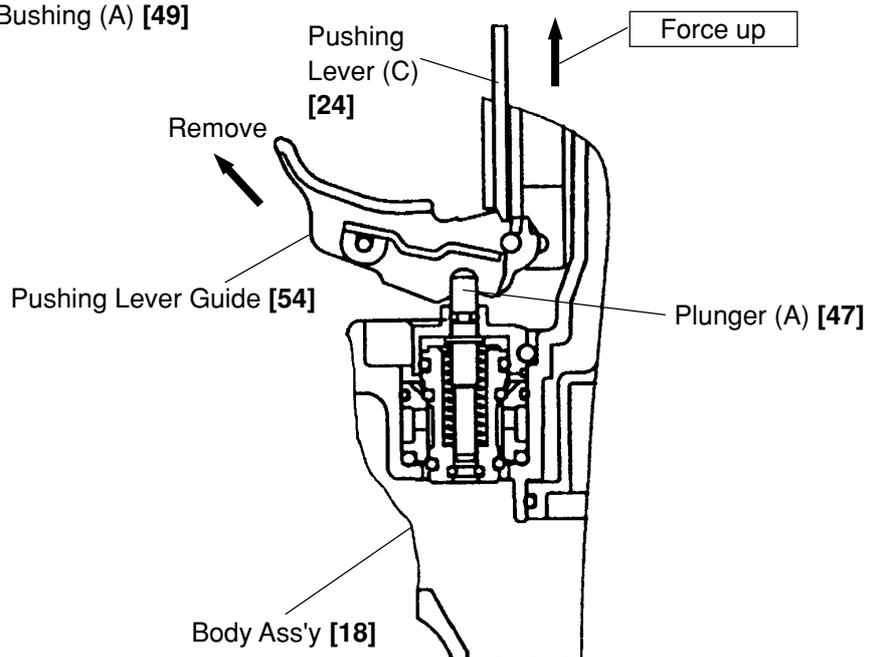

Fig. 23
- To remove the Pushing Lever Guide [54] together with the driving section (Pushing Lever (C) [24], the Nose [20], etc.), remove the Trigger [52] while forcing up Pushing Lever (C) [24], as shown in Fig. 23.